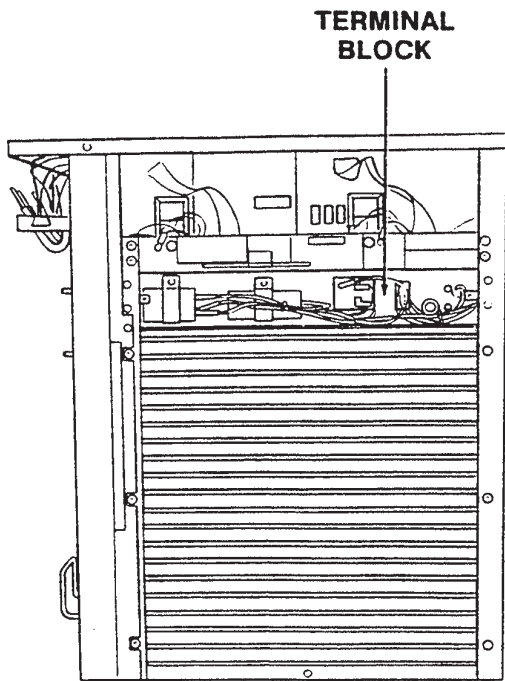

Figure 63. Fan Motor Connections
- Locate the terminal block and identify the two terminals the fan motor wires are connected to. Then, remove the two wires (Figure 63).